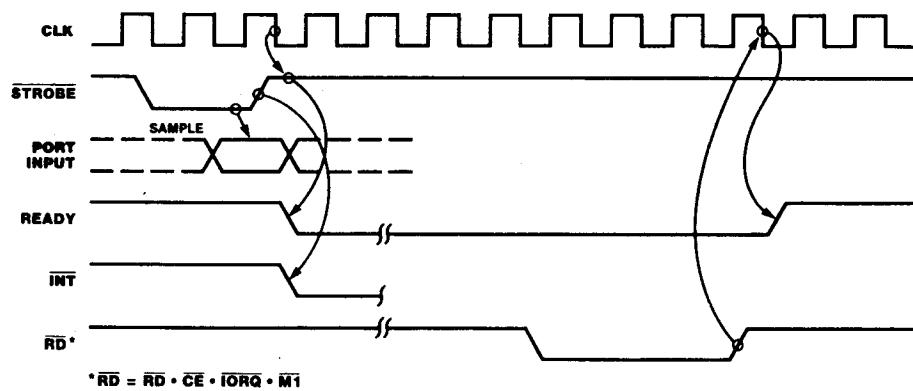

Figure 15. Mode 1 Input Timing
**Input Mode (Mode 1).** When STROBE goes from Low to High, data is latched into the selected port input register (Figure 15). While STROBE is Low, the input data latches are transparent. The next rising edge of STROBE activates INT, if Interrupt Enable is set and this is the highest-priority requesting device. The following falling edge of CLK resets Ready to an inactive state, indicating that the input register is full and cannot accept any more data until the CPU completes a read. When a read is complete, the positive edge of RD sets Ready at the next Low-going transition of CLK. At this time new data can be loaded into the PIO.